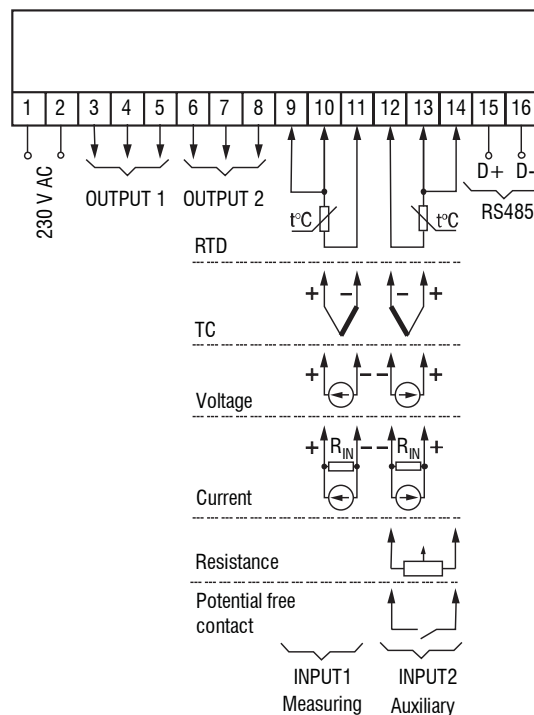
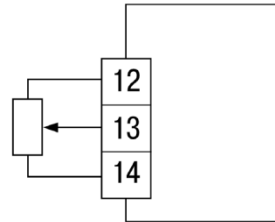

Fig. 5.1 Terminal block layout
Fig. 5.2 Potentiometer
- The layout of terminal blocks is shown in Fig. 5.1 and the terminal assignments in Table 5.1
- The inputs should be wired in accordance with Fig. 5.1, 5.2
Connect the current or voltage signal according to Fig. 5.1. An auxiliary voltage source is needed.
The resistive position sensor (potentiometer) should be connected according to Fig. 5.2. The current position sensor should be connected as the other current sensors according to 5.1 and Fig. 5.1. The valid measuring ranges are 0-2 kohm, 4-20 mA, 0-20 mA, 0-5 mA.